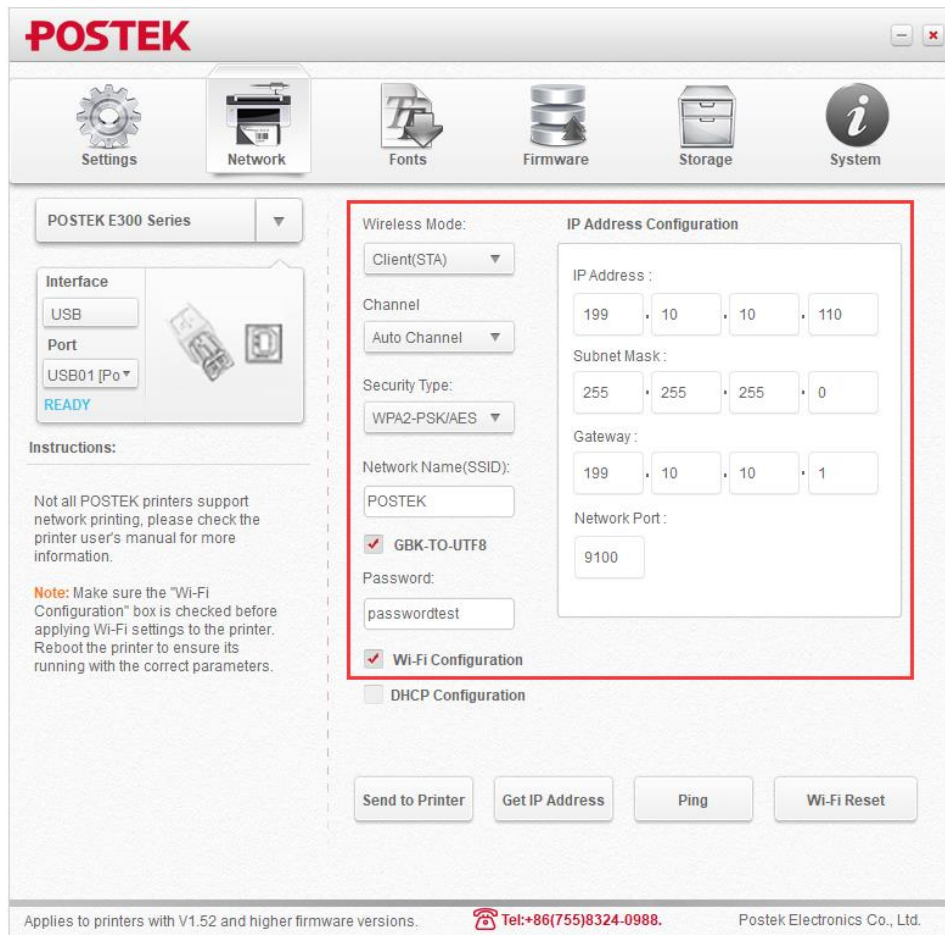

Figure 2-32 Wireless Network Configuration
4. Enter the wireless mode, channel, security type, network name (SSID), password and IP address, then click “Wi-Fi Configuration”, as shown in Figure 2-32.